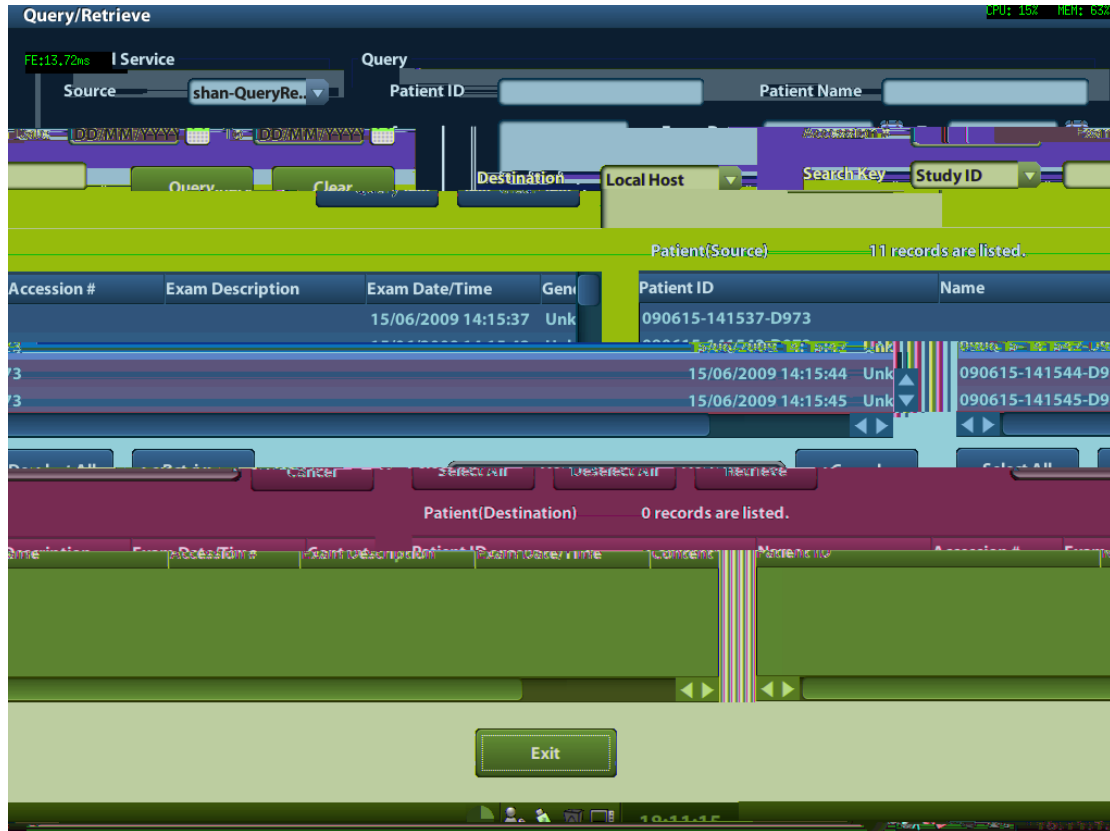

Figure 18 Query
4. Select the Source server, enter Search Key words and click [Query]. As shown in Figure 18 Query.